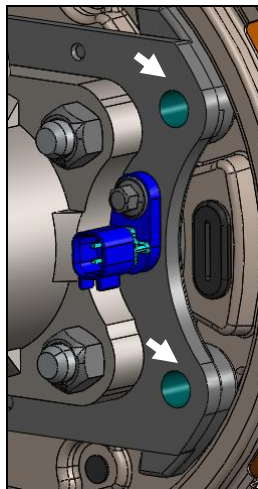

Figure 6: Shim Locations
4. Install the appropriate shims (between the slider pin head and axle flange housing), removing one bolt at a time, and snug the same bolts for fit check. See Figure 6 for reference. Install the caliper again for clearance check.